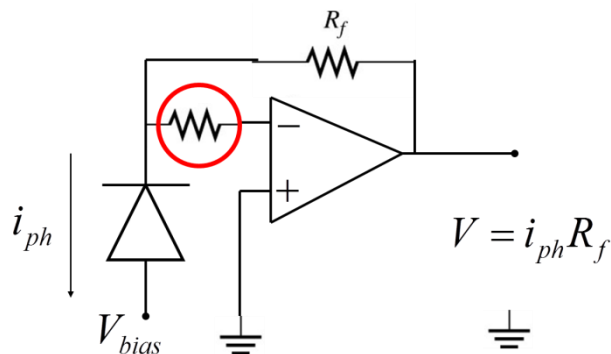

Figure 3 - Transimpedance Amplifier
**WARNING:** For the photodiode characterisation, you will need positive and negative power to the opamp, yet the final circuit should operate with only one battery. Similarly, you will need to be able to access the photodiode  $V_{\text{bias}}$  (from Figure 3), in order to fully characterise your photodiode, yet in the final circuit this connection should be grounded. This will mean that you should plan to make these alterations as simple as possible.
1. you will need to be able to access the photodiode  $V_{\text{bias}}$  (from Figure 3), in order to fully characterise your photodiode.